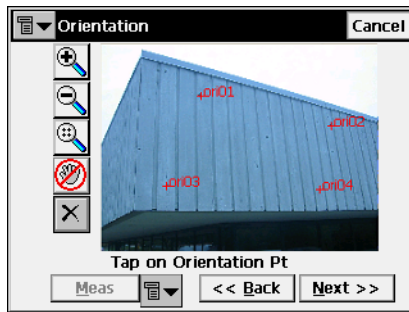

Figure 6-49. Calculate Image Orientation
- When four or more orientation points have been established, tap the **Next** button on the *Orientation* screen (Figure 6-49) to display the orientation results.